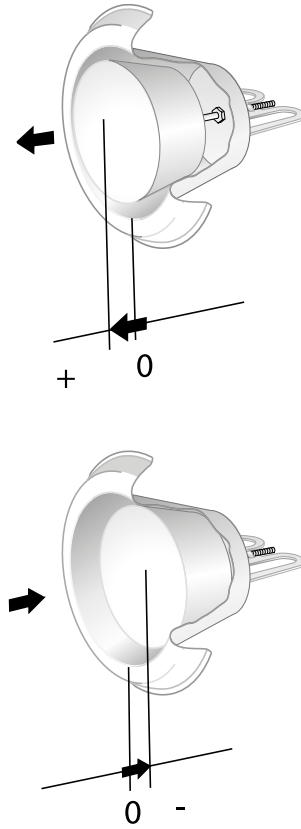

Figure 2. Commissioning.
The terminal is adjusted by pressure measurement or air flow measurement. Use a "measuring hook" for the pressure measurement or a suitable air flow meter to measure the air flow. See Figure 2.
- Sound pressure level dB(A) applies to rooms with 10 m² equivalent sound absorption area.
- The octave band correction value K_{OK} gives the cone's zero setting according to Figure 2.